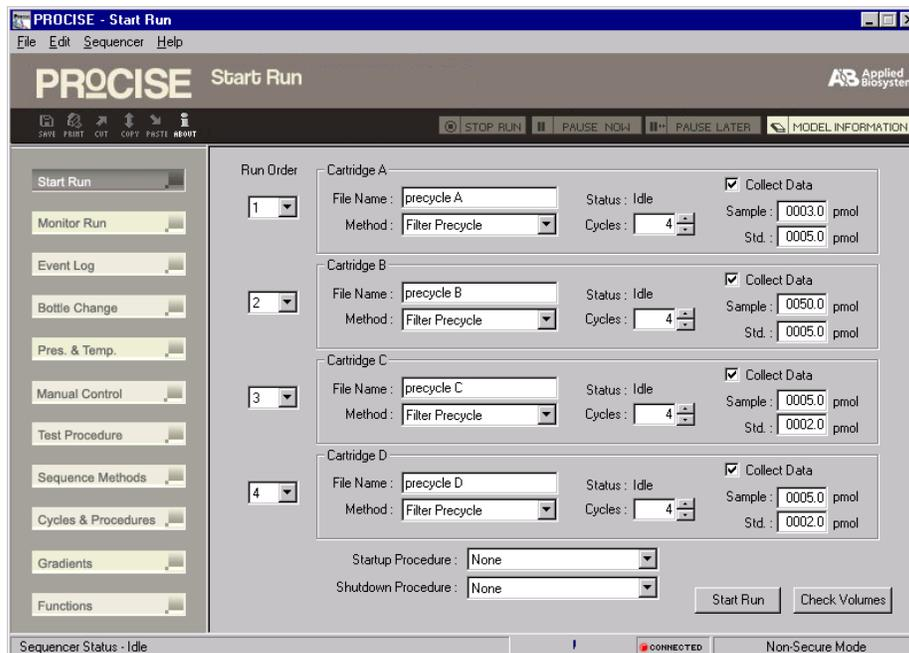

Figure 3-6 Precycling a glass-fiber filter treated with BioBrene
1. Select the Start Run dialog box from the dialog box pop-up menu on the computer (Figure 3-6).